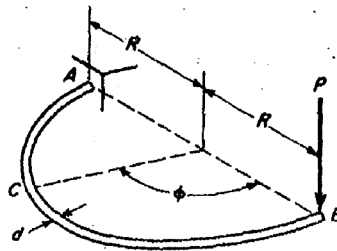

Fig.4 (b)
- (b) A shaft of diameter d , bent in the form of a semicircle AB of radius R , is built-in at A and loaded at B by a force P acting perpendicular to the plane of the ring as shown in Fig.4 (b). Thus any cross-section C of the ring is subjected to both bending and torsion. Assuming that d is small compared with R so that the theory of bending of straight bars may be used, find the value of ϕ for which the principal stress σ will be a maximum.
(b) A prismatic shaft of diameter d has built-in ends and is subjected to the action of externally applied twisting moments T_1 and T_2 , as shown in Fig. 4(b). Find the internal torques T_a , T_b , T_c in the three portions a , b , c , of the shaft. The following numerical data are given: $a = 75 \text{ cm}$, $b = 125 \text{ cm}$, $c = 100 \text{ cm}$, $T_1 = 12,000 \text{ kg-cm}$, and $T_2 = 24,000 \text{ kg-cm}$.